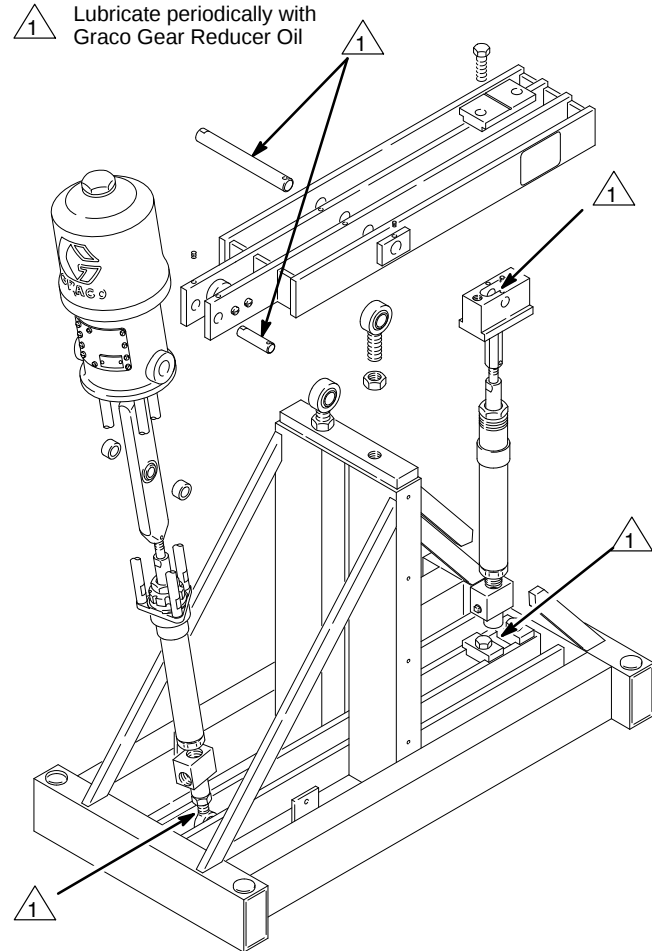

Fig. 9
2. Insert one end of the nylon hose (52) into the wet-cup.
3. Pour Throat Seal Liquid (44) into the hose until the wet-cup is full.
4. Lubricate the VRHC periodically with Graco Gear Reducer Oil (43). If the pump is operating continuously at 60 cycles/min, lubricate at the points shown in Fig. 9 once every five days.